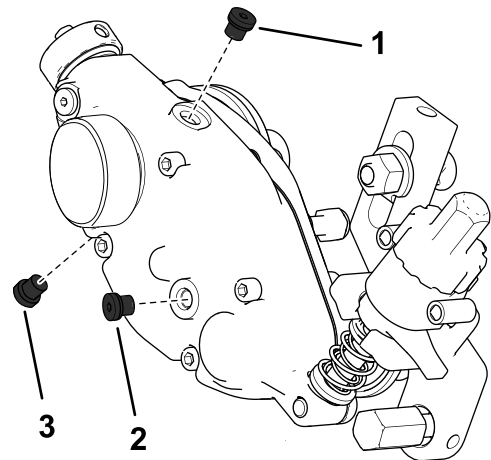

Figure 33
2. Remove the drain plug on the bottom of the housing (Figure 33).
3. Remove the fill plug on the side of the housing and loosen the air vent plug on the top so air can pass through (Figure 33).